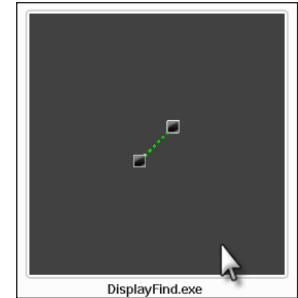

Figure 12: DisplayFind Icon
2. Launch the DisplayFind application by double-clicking the **DisplayFind** icon. Refer to **Figure 12**.